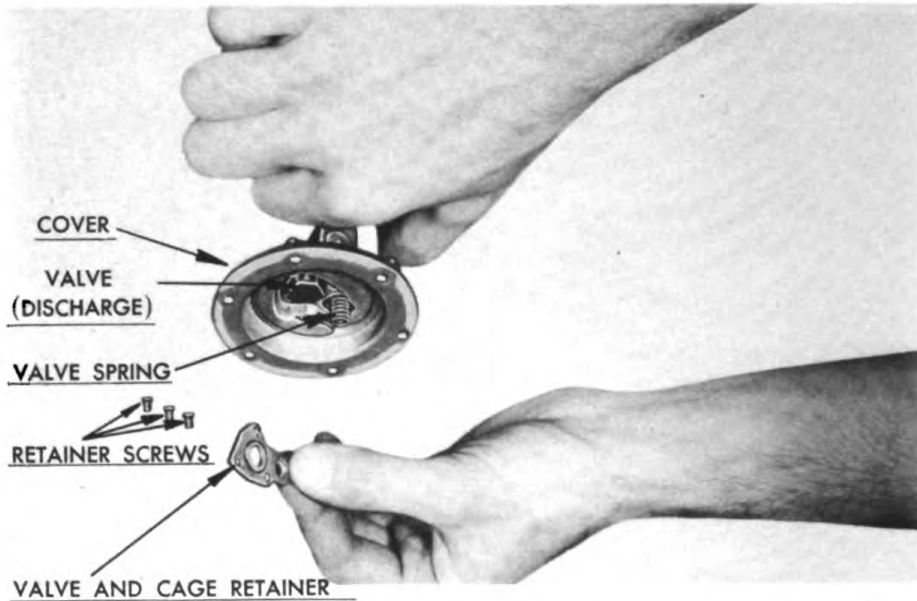

Figure 301. Removing Fuel Pump Valve and Cage Retainer.
- f. Lay top cover on bench with diaphragm flange up and remove the three screws holding valve and cage retainer. Figure 301.
- f. Install lower oil seal retainer, leather oil seal washers, upper oil seal retainer and oil seal retainer on pull rod. Figure 301.